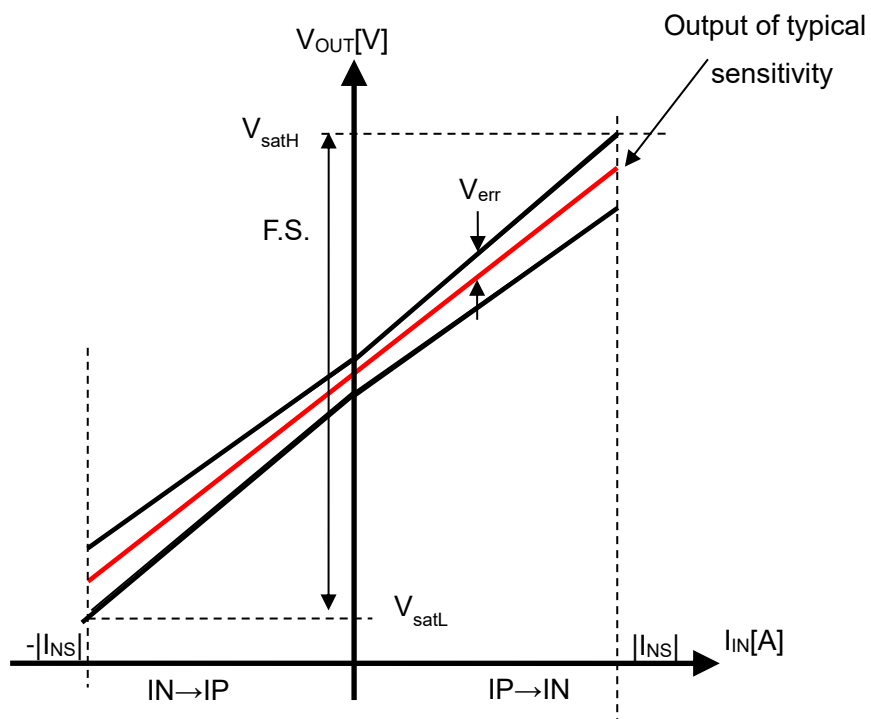

Figure 4. Total Accuracy of CZ-3A05
10.2. Total Accuracy  $E_{total}$  [%F.S.] is defined as below (See Figure 4.)